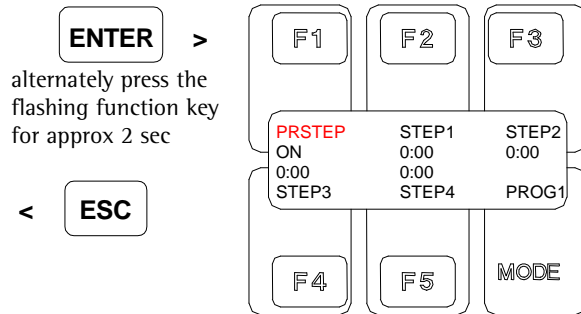

Fig. 14: program definition
- In fig. 14 (program definition) is indicated, whether the PRSTEP is "ON" or "OFF". Furthermore the step duration is indicated.
Selection of the different "STEPS" (fig. 14):